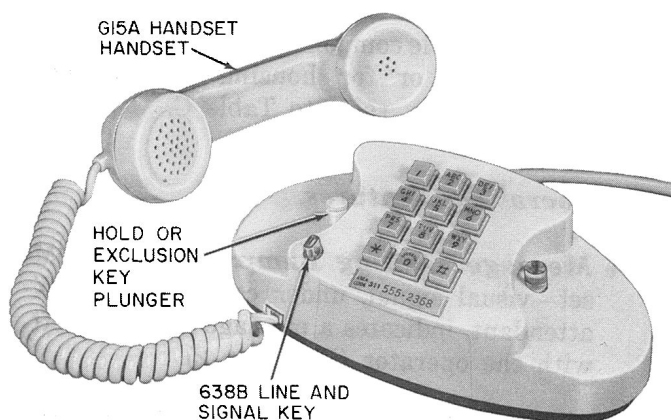

Fig. 3—2713B Telephone Set
2.02 The 2713B or 2713BM telephone set (Fig. 3) is equipped with 2-line pickup with hold on either line (CO lines, nonkey system).
- **Line and Signal Key:** 2713B or BM set—permits line selection by turning, signaling by depressing (Fig. 3 and 6).
- **Hold Key Plunger:** 2713B or BM set—provides for mechanical hold on either or both nonselected CO line (Fig. 3).